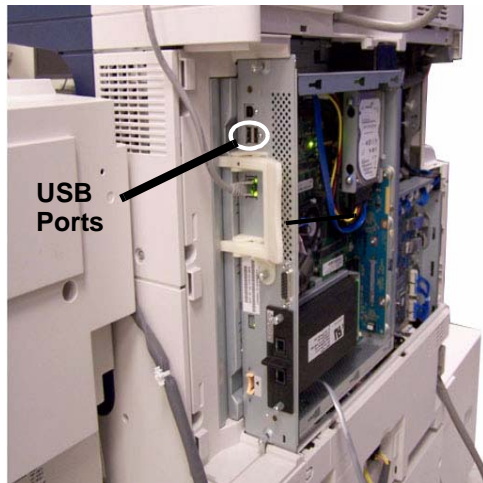

Figure 1 USB Ports
- Connect the USB Flash Drive to one of the USB Ports on the Control Unit (Figure 1).